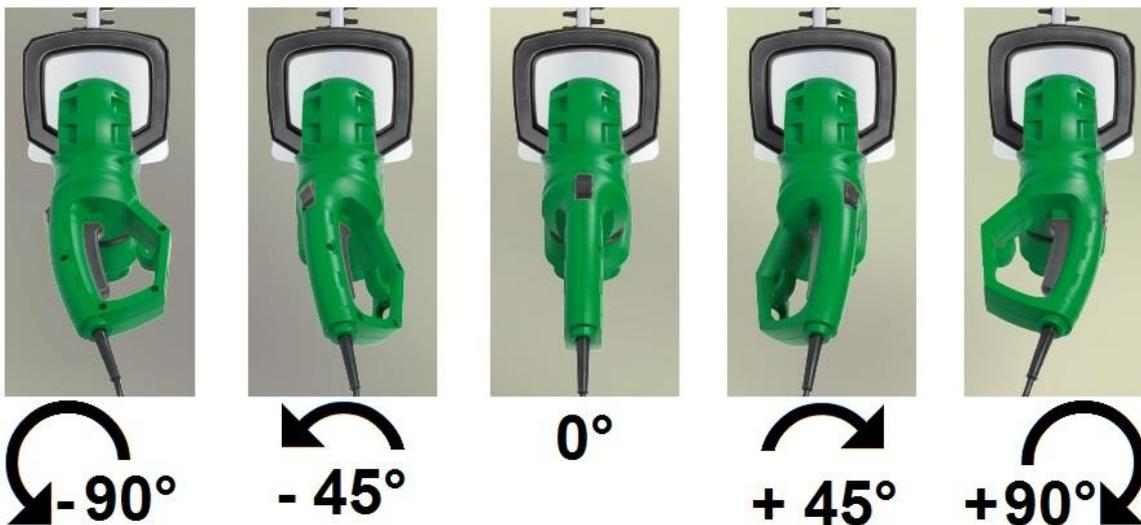

Fig.3
- Both sides of the cutting blades allow to trim both ways: from right to left or left to right (Fig. 3).